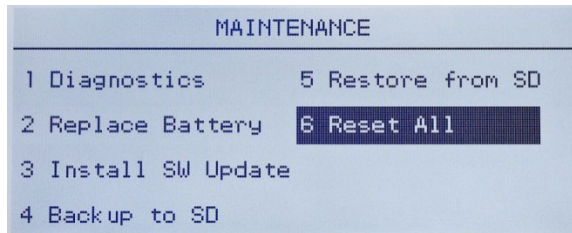

Figure 3-32: Reset All Setup Blocks
- Select **Reset All** under Maintenance (Figure 3-32) to restore all setup settings to factory defaults. Note that neither this, nor Scale Reset, includes the reset of type, capacity, increment, or calibration data. Only a Master Reset will reset these parameters to factory default values. A Master Reset should only be performed by a trained METTLER TOLEDO service technician.